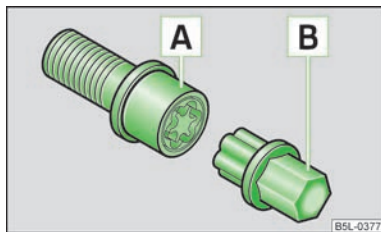

Fig. 154
- Insert the adapter **B** » Fig. 154 with its toothed side fully into the inner tooth- ing of the safety wheel bolt **A** until the stop so that only the outer hexagon is jutting out.